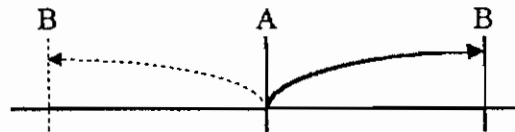

FIG.1
first grinding edge of workpiece "A" (please refer FIG.1)
After that, operation the S6 switch(for rapid forward or backward). to sent the spindle seat to the first grinding edge of workpiece "A"(please refer FIG.1)
- * The wheel balancing base must be levelled (Fig. 1)